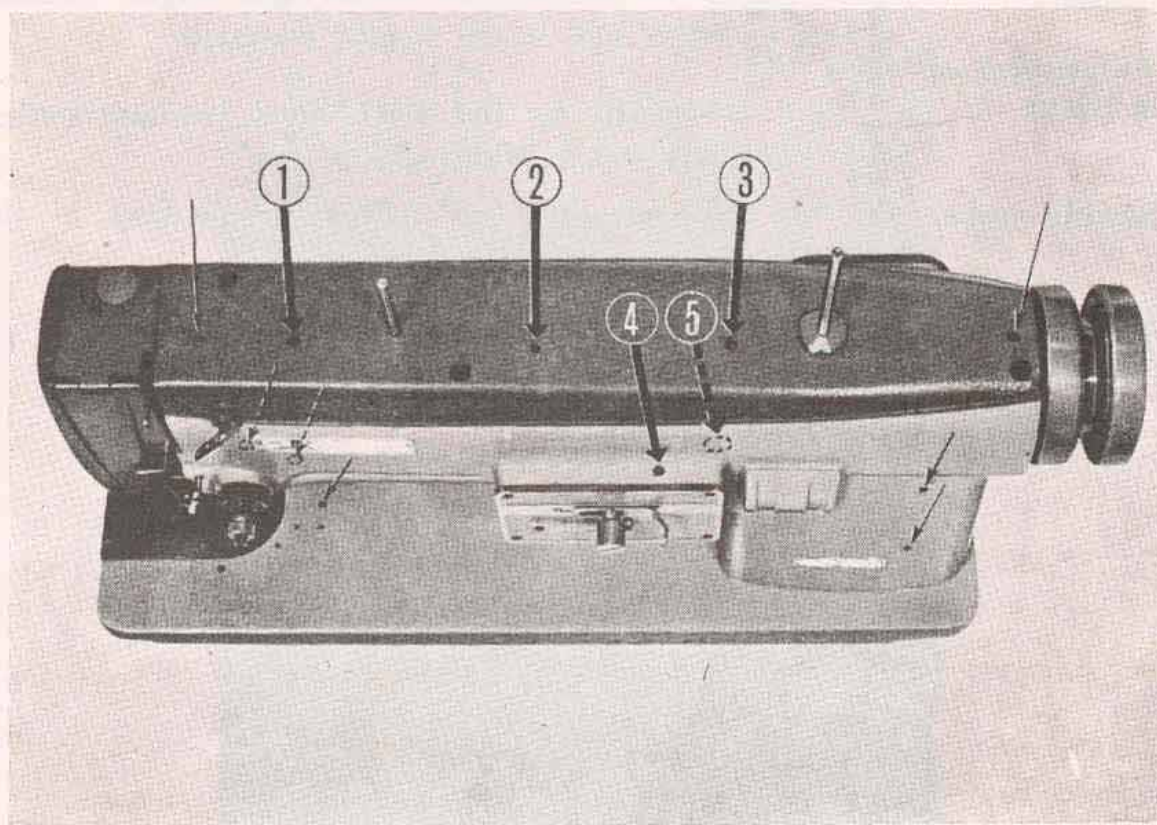

Fig. 5 Oiling holes
Lubricate the oil holes marked in red with Oil 1 to 2 drops every day (Fig. 5). But to the holes ① ② ③ ④ ⑤ marked with heavy red mark, lubricate about 5 to 6 drops every day. There are oil reservoirs on these holes and from here all the essential parts are supplied